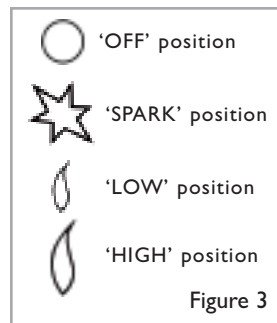

Figure 3
• **Meridiana, Brayfield, Fab Shine and Merrion models :** The control knob is located on the lower right hand side of the outer case. It is of a spherical design and is marked as shown in figure 3.